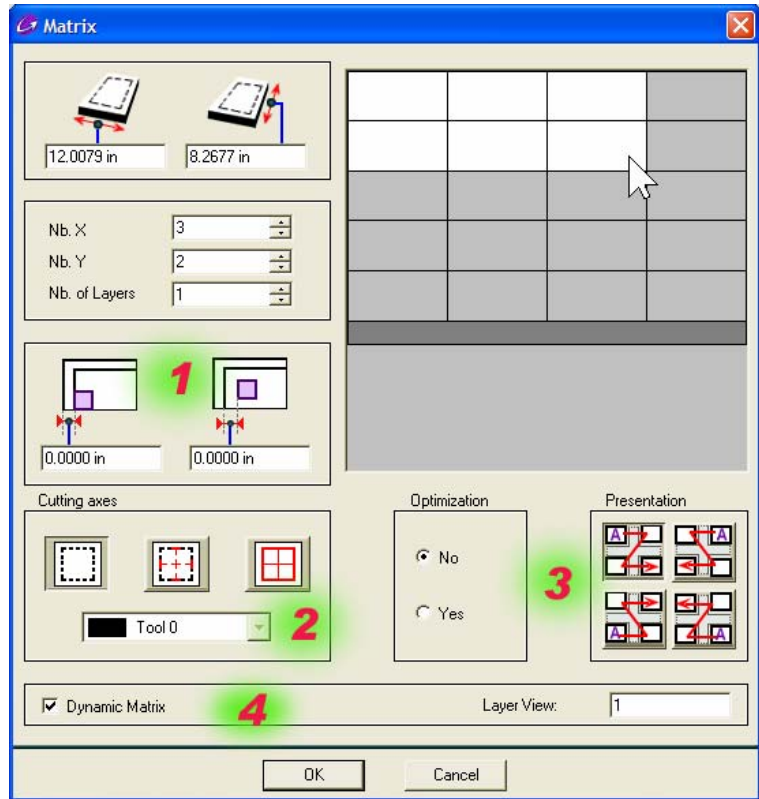

Figure 2-16 Matrix Size Defined
- ... Next, we'll click on the nameplate rectangle at the bottom-right corner of the matrix size we want. This will be the rectangle in the second row of the third column (Figure 2-16).
There are four other parts of the Matrix window that will be of value as we progress. They're the numbered areas of Figure 2-16. We won't use them for this job; we'll just mention them now: